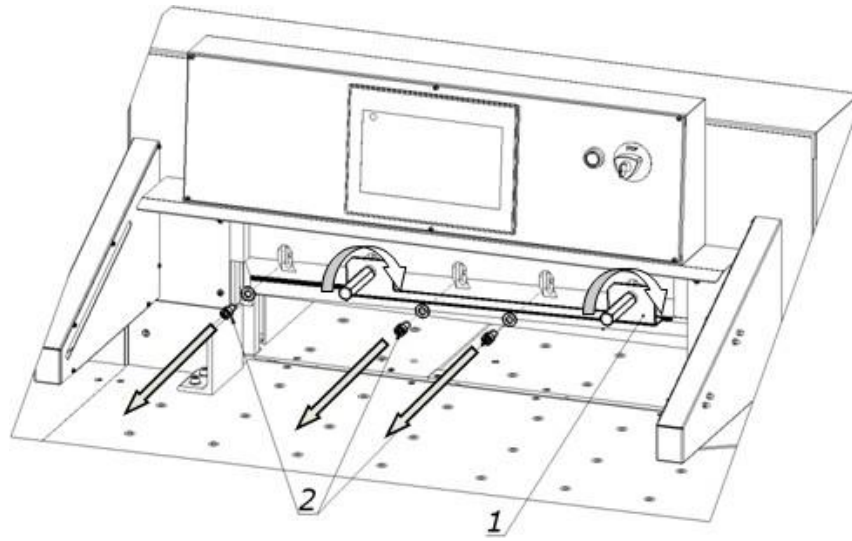

Figure 25.
12. Unscrew and remove the screws 2 (fig.25)